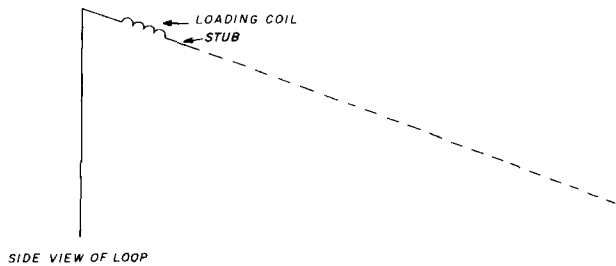

fig. 5. Using a loading coil to reduce stub radiation.
The stub can be shortened considerably by means of a loading coil installed in series with the stub at the point where the stub is connected to the triangle apex. See **fig. 5**. The 13-meter (43 foot) stub was reduced to 4.9 meters (16 feet) by the use of a 32- $\mu$ H loading coil. The loading coil reduces radiation from the stub, but it results in a reduction in antenna bandwidth. The loading coil is a B&W 3029/3905-1,\* which is 63.5 mm (2 1/2 inches) diameter by 254 mm
5. G. Hall, "Off-Center Loaded Dipole Antennas," *QST*, September 1974, pages 28-34, 58. (The antenna shown in fig. 5 of the referenced article is the one referred to as the  $\lambda/4$  dipole. It's a popular radiator for sloping-dipole installations.)